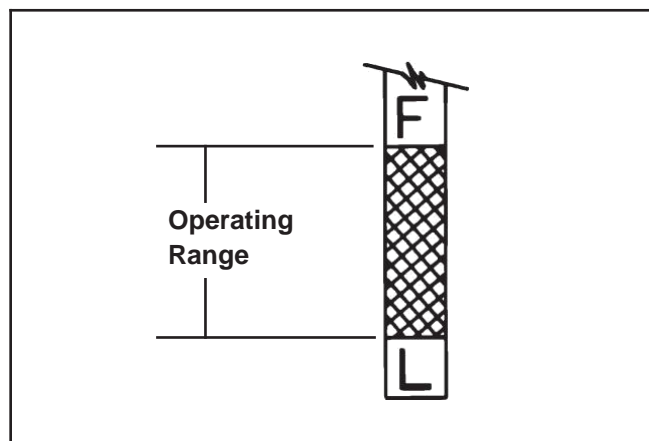

Figure 6-4. Oil Level Dipstick.
4. Remove the dipstick and check the oil level. The oil level should be up to, but not over the “F” mark on the dipstick. See Figure 6-4.